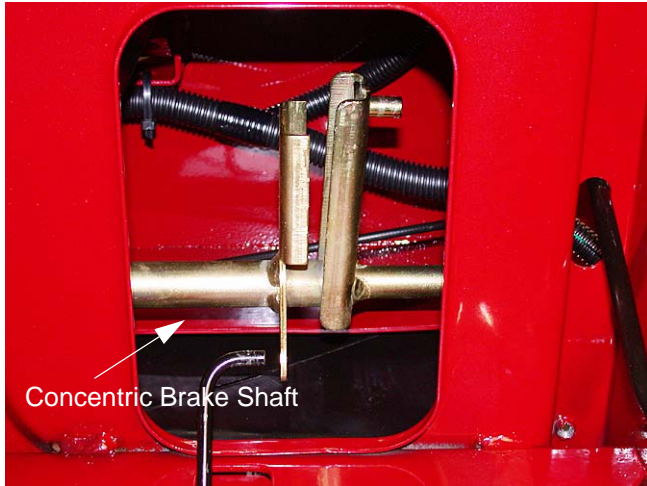

Figure 17.12
- 17.12. Slide the concentric brake cross shaft to the right allowing the brake rods to come out of the hole in the shaft. See Figure 17.12.